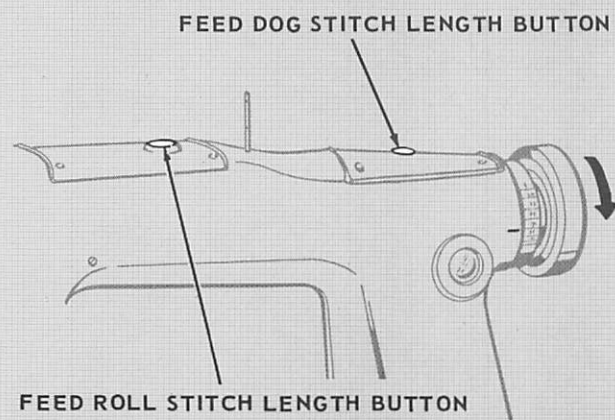

Fig. 31. Machines 281-20 and 281-23
2. Depress feed dog stitch length button, shown in Fig. 31.